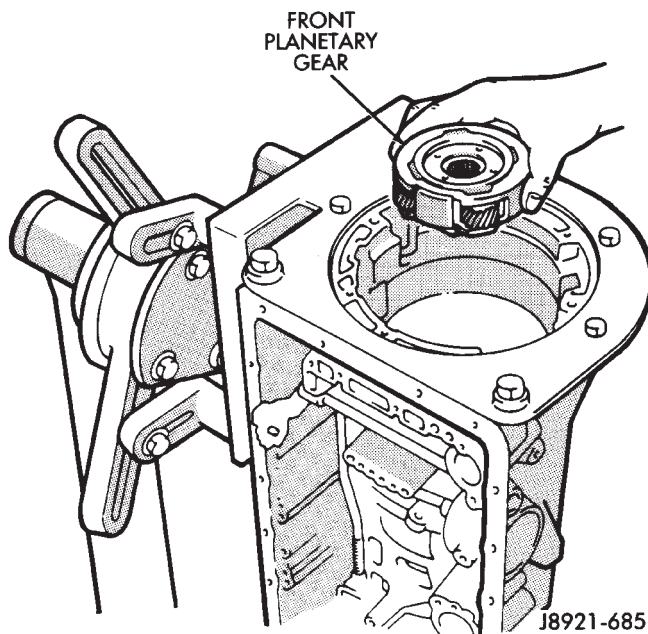

Fig. 18 Installing Front Planetary Gear
- (23) Install front planetary gear on sun gear (Fig. 18).